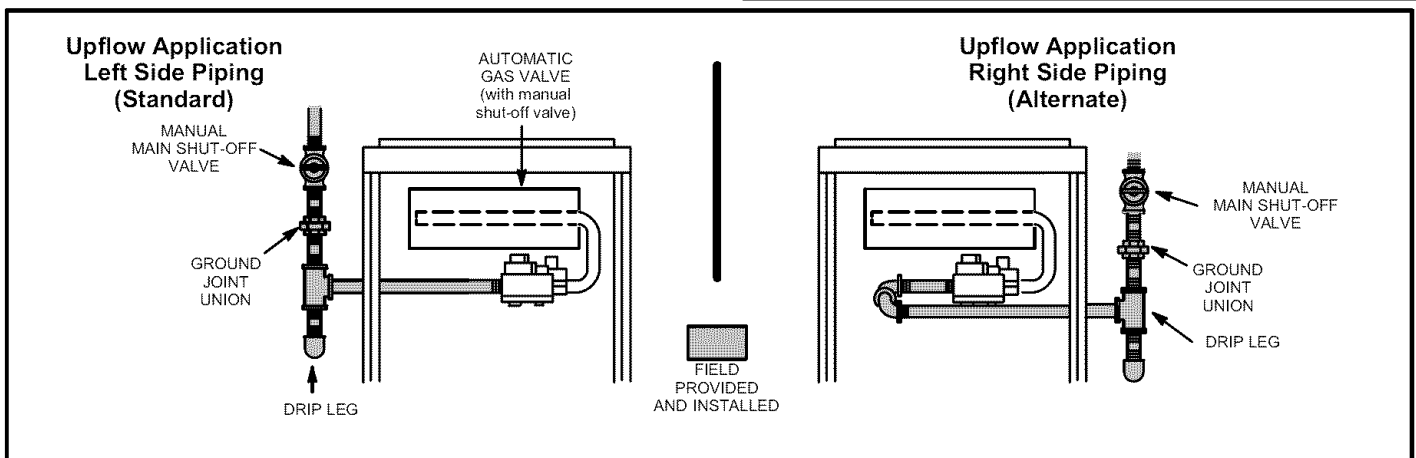

Figure 36
- 1 - Gas piping may be routed into the unit through either the left- or right-hand side. Supply piping enters into the gas valve from the side of the valve as shown in figures 36 and 37.
- 3 - Gas piping must not run in or through air ducts, clothes chutes, chimneys or gas vents, dumb waiters or elevator shafts. Center gas line through piping hole. Gas line should not touch side of unit. See figures 36 and 37.